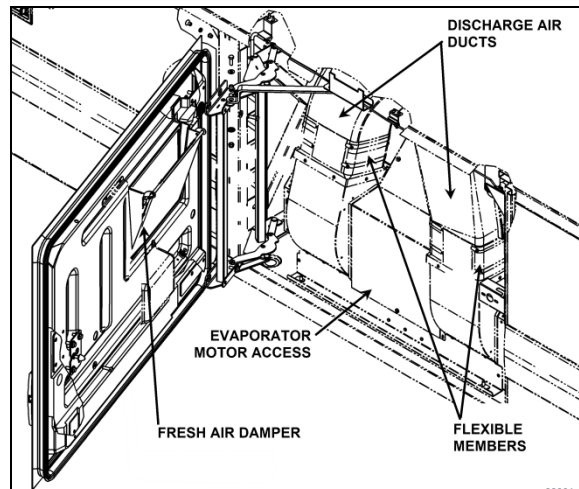

FIGURE 71: X3 SERIES PASSENGERS' AREA FRESH AIR DAMPER
- X3 Series - On the evaporator compartment door (Figure 71).